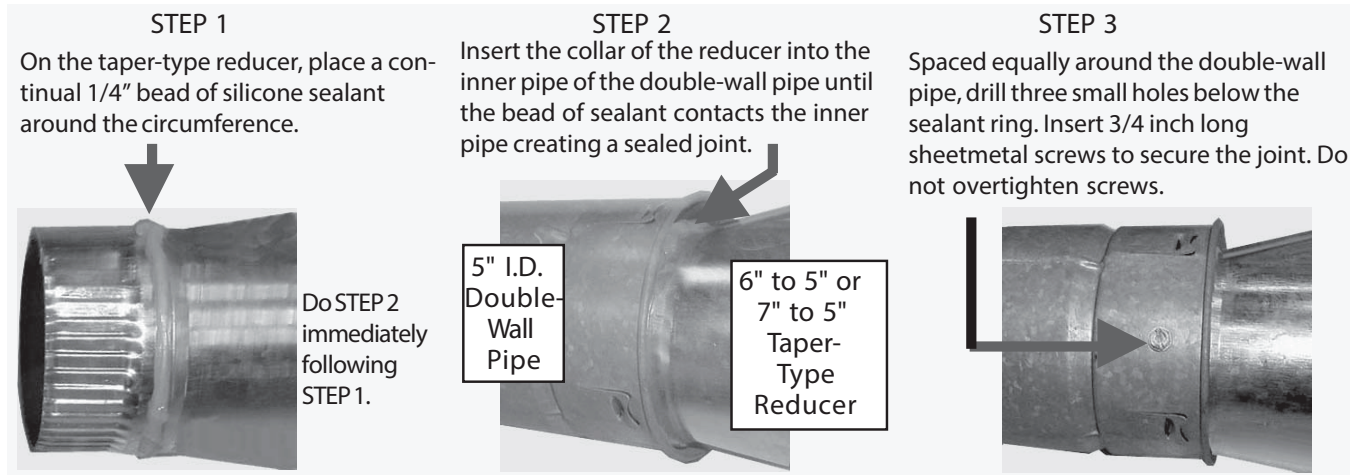

Figure 12. Joining Double-Wall (Type B) Pipe to Single-Wall or Category III Vent Pipe Using Tapered Reducer
- **To seal the joint between the terminal section of double-wall vent pipe and a single-wall or Category III vent pipe:** follow the illustrated step-by-step instructions in Figure 12. Make this connection no more than 6 inches (152 mm) from the concentric adapter box.